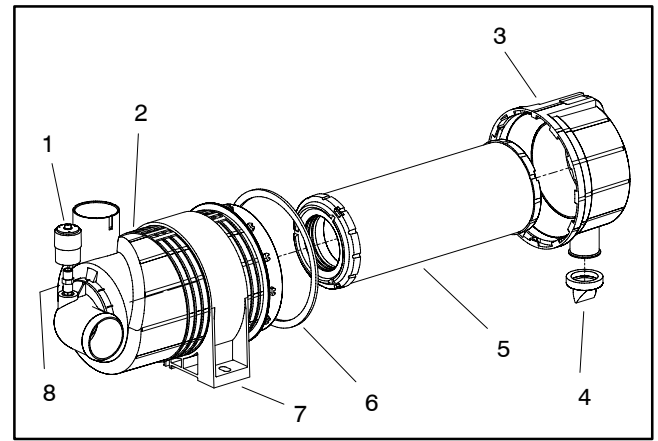

Figure 4
- A. Make sure that vacuator valve is pointed down after assembly (Fig. 4).
- B. Make sure that inlet hose (item 2) has clearance around it at all points after air cleaner installation is completed.